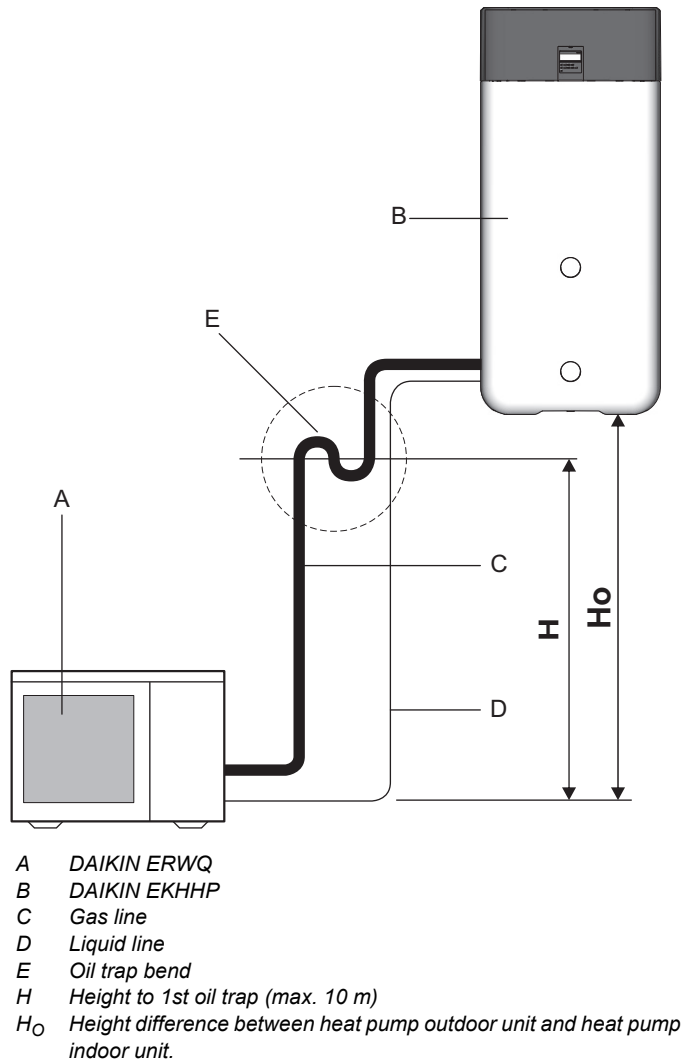

Fig. 3-7 Oil trap bend for refrigerant piping
- Required if DAIKIN EKHHP is not installed at ground level to the external heat pump unit (fig. 3-7, $H_O \geq 10$ m).
- At least one oil trap bend must be installed for every 10 m of height difference (fig. 3-7, H = distance from oil trap bend to oil trap bend).